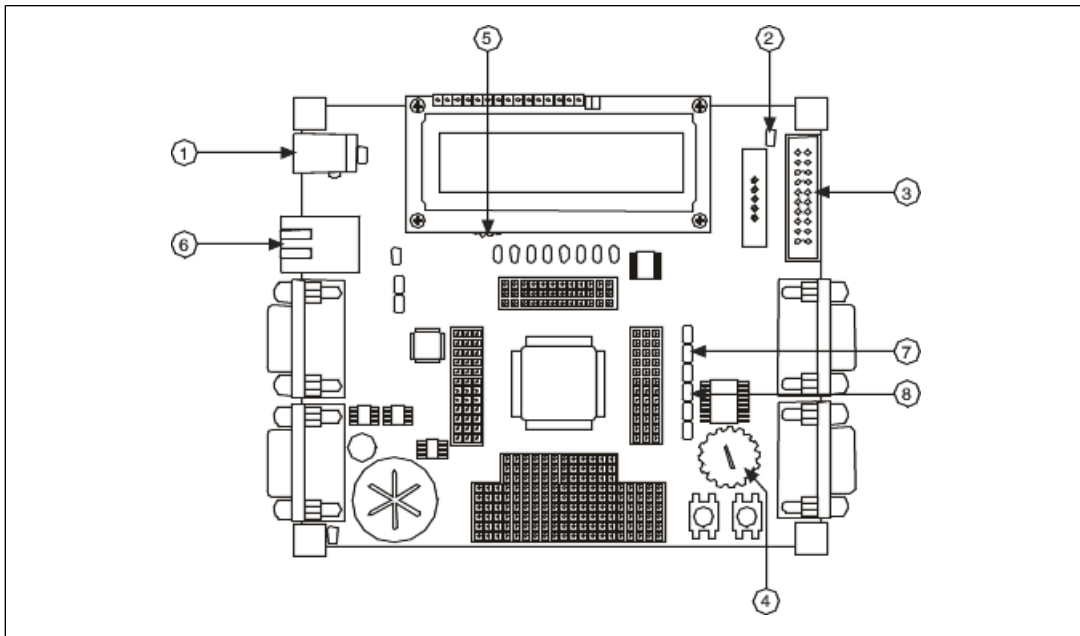

Figure 1. Locating Parts for the MCB2300 Installation
Figure 1 shows the location of some of the parts on the MCB2300 evaluation board. Refer to the hardware documentation for more information about the evaluation board.
5. Verify that the RST and ISP jumpers are off if you plan to use the COM0 port. Refer to Figure 1 to locate the RST and ISP jumpers. Refer to the jumper settings configuration topic in the *MCB2300 User's Guide*, available by navigating to `Keil\ARM\Hlp` and opening `mcb2300.chm`, for information about configuring jumpers for other programming utilities, such as Flash Magic.